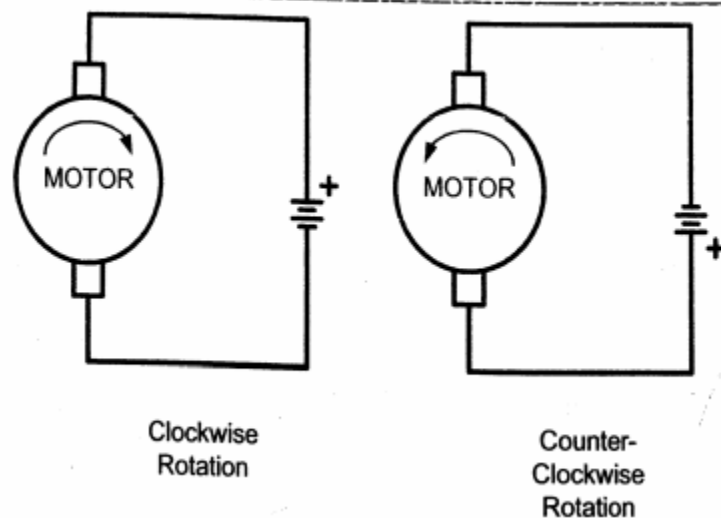

Figure 5.13 DC Motor Rotation (Permanent Magnet Field)
- The following figure 5.13 shows the DC motor rotation for clockwise (CW) and counterclockwise (CCW) rotations.